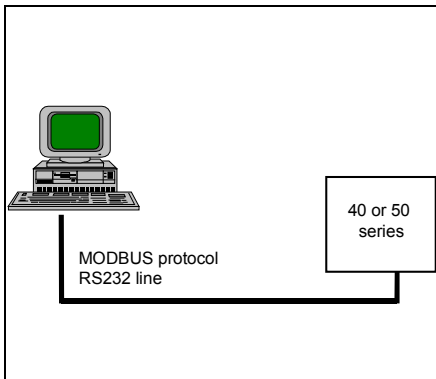

Figure 7-3 : Point to point connection with a PC
- **Point to point connection with a PC (see Figure 7-3)**